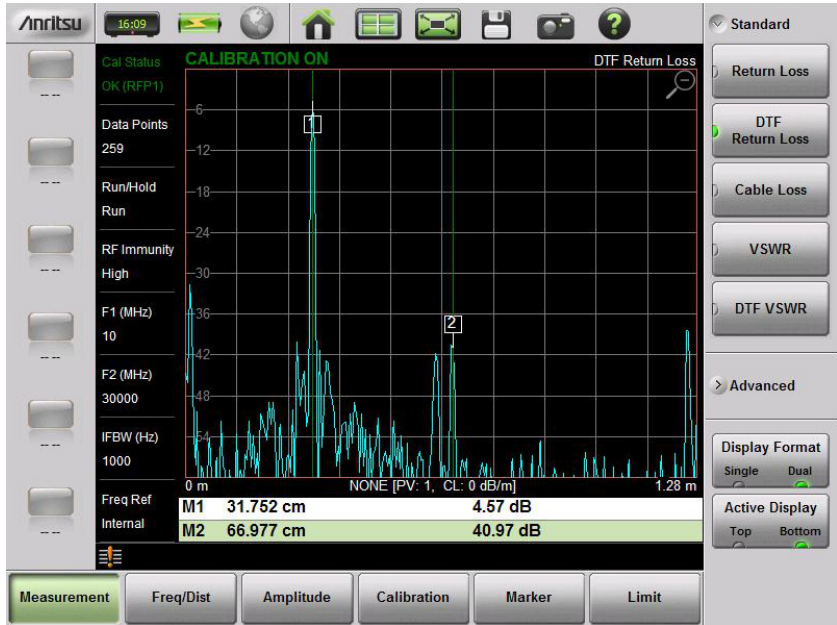

Figure 2-15. Dual Display Format with Bottom Display Maximized
- Figure 2-15 on page 2-27 shows the Bottom graph maximized. Tapping on the magnifying glass restores the dual display.